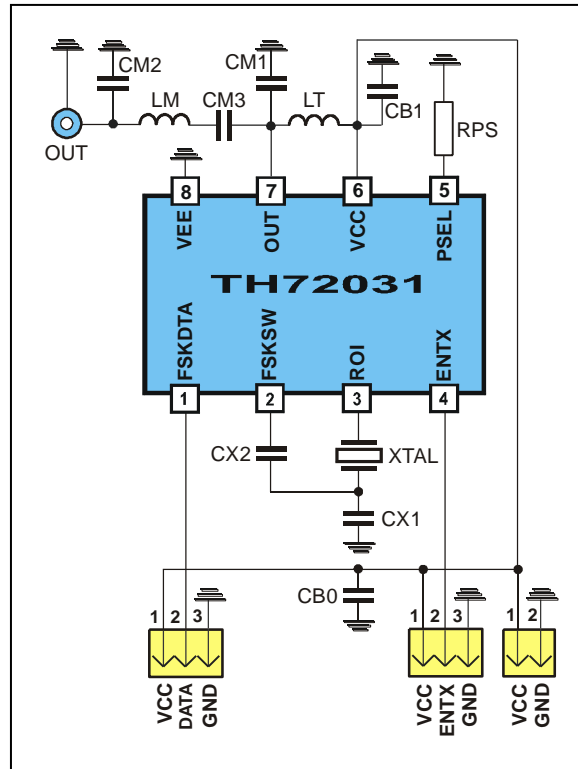

Fig.18: Test circuit for FSK with 50 Ω matching network
- Data according to test circuit in Fig. 18 (868.3MHz)
### 6.1. Test circuit component list to Fig. 18